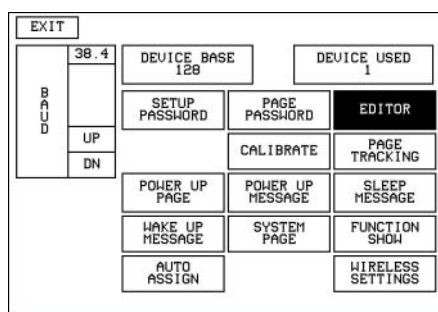

FIG. 3 ViewPoint protected setup page
3. Enter 1988 (default password) in the keypad and press ENTER to open the Protected Setup page, shown in FIG. 3. If you enter a wrong number, press CLEAR and re-enter the number.